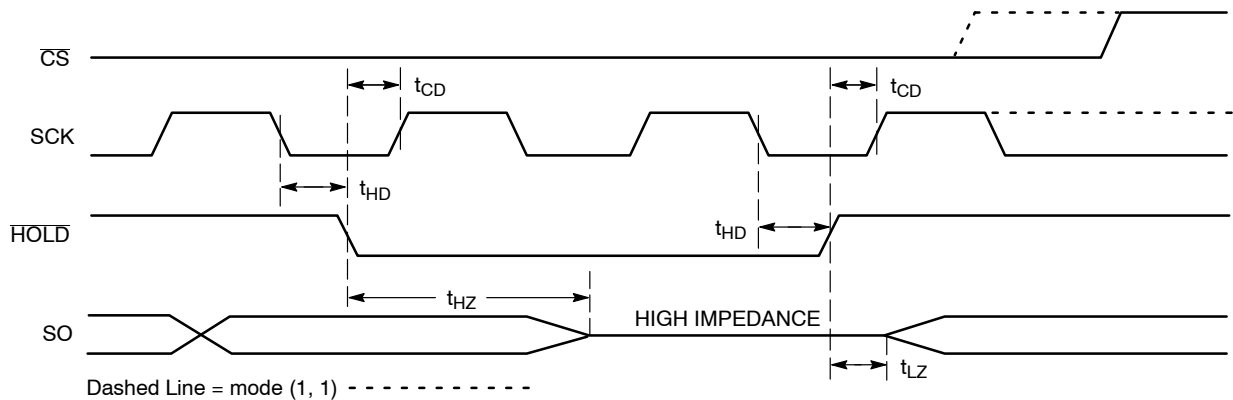

Figure 11.  $\overline{\text{HOLD}}$  Timing
The  $\overline{\text{HOLD}}$  input can be used to pause communication between host and CAT25128. To pause,  $\overline{\text{HOLD}}$  must be taken low while SCK is low (Figure 11). During the hold condition the device must remain selected ( $\overline{\text{CS}}$  low). During the pause, the data output pin (SO) is tri-stated (high impedance) and SI transitions are ignored. To resume communication,  $\overline{\text{HOLD}}$  must be taken high while SCK is low.